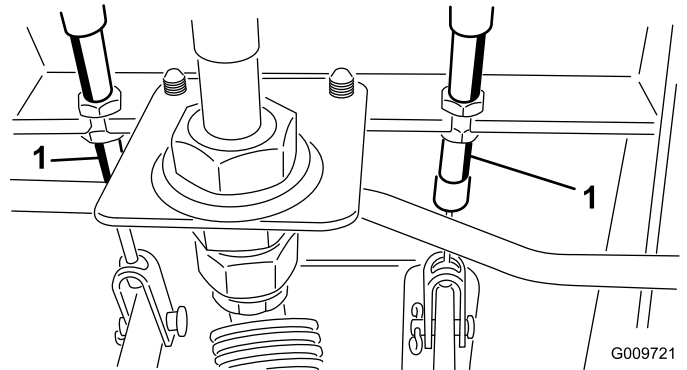

Figure 64
- A. Loosen the front nut on the threaded end of the brake cable (Figure 64).